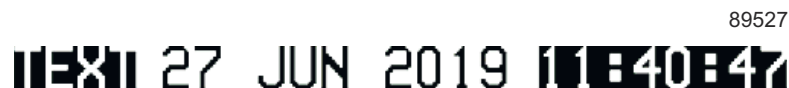

Figure 29. Inverted and Non-Inverted Text Field
- **Negative Image**—select **Yes** to print the field as an inverse image. Figure 29 shows the first (text) and last (time) fields printed inversely and the middle (date) field printed normally.